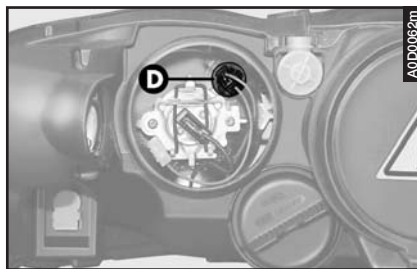

fig. 33
- Press the two retaining tabs and remove the bulb holder (**D-fig. 33**).